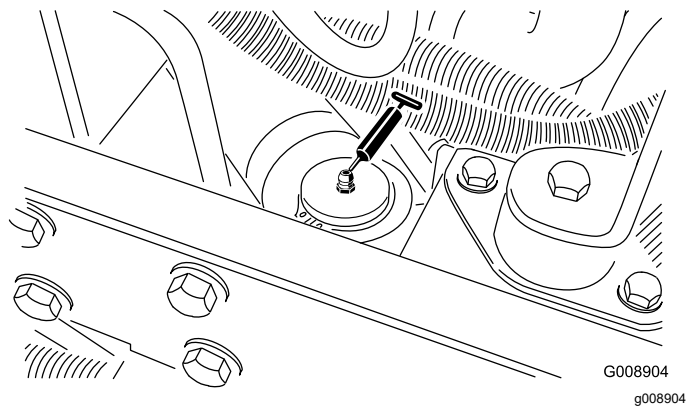

Figure 43
- Steering cylinder (Figure 43).